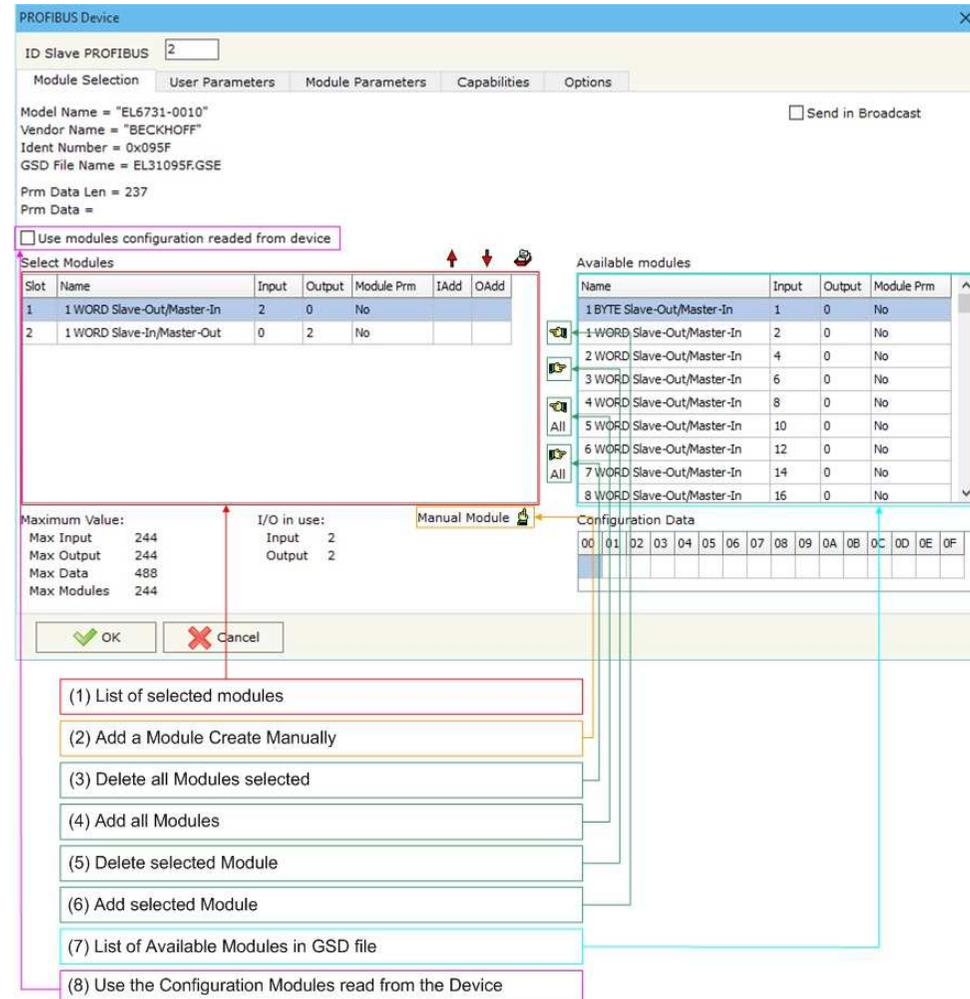

Figure 11: “PROFIBUS Device – Module Parameters” window
The section “Module Parameters” is used to modify the parameters of the Modules (Fig. 11).
- The List of all Module selected in the GSD file (“Available modules”) (Fig. 11, point (1));
- The List of all Parameters available for the Module selected (“Parameters of module”) (Fig. 11, point (2));
- The Configuration of all parameters in RAW for the Module selected (“Parameters in RAW (Hex)”) (Fig. 11, point(3));
- The admitted value for the selected parameter. It is possible to select the value desired and confirm it with the “**Apply**” button. If no value appears in this table, the “Min Value” and “Max Value” are the limit of the parameter. (Fig. 11, point(4));
- The “**Apply**” button is used to confirm the new value of the parameter, the “**Default**” button is used to load the factory value for the parameter. In “**New Value**” edit box it is possible to set the new value. (Fig. 11, point(5));